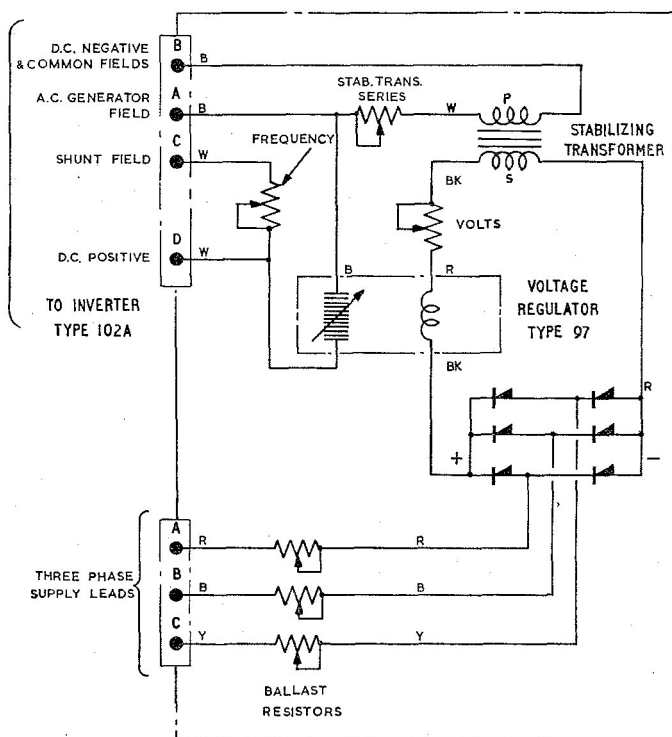

Fig. 2. Circuit diagram
3. The regulator, Type 97, consists solely of the carbon pile assembly, with associated armature and operating coil. The stabilizing transformer, rectifiers, and ballast and trimmer resistors are incorporated in the control panel. A circuit diagram including the items fitted in the control panel is given in *fig. 2*.